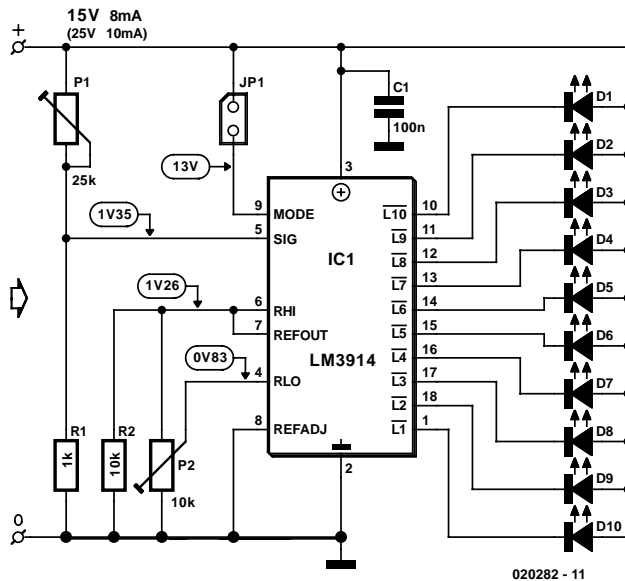

Figure 1. All that is required for the battery guard is already present in the LM3914.
**Figure 1** illustrates that the cir-